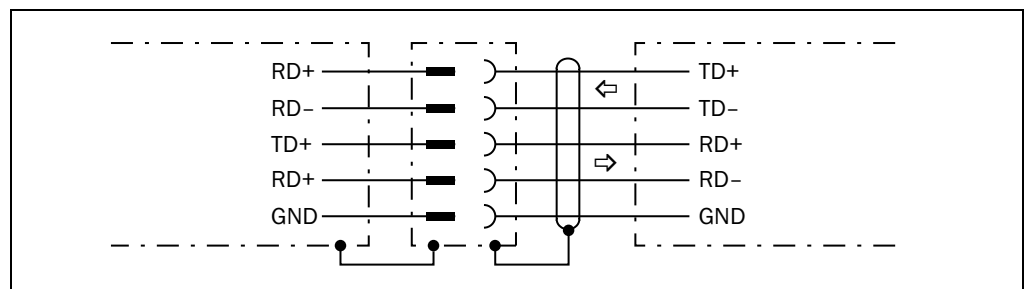

Fig. 38: Wiring the RS422 interface
- Connect the PC (serial interface) to the LD-LRS (see fig. 38 on page 53)